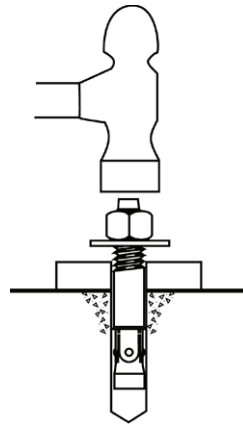

Figure 7
- E. Assemble the washers and nuts onto the anchor bolts. Thread the nuts onto the anchor bolts where the tops of the nuts are just above the top of the bolts, Figure 7. Using a hammer, carefully tap the anchor bolts into the concrete until the washer rests against the baseplate. Do not damage the nuts or threads.